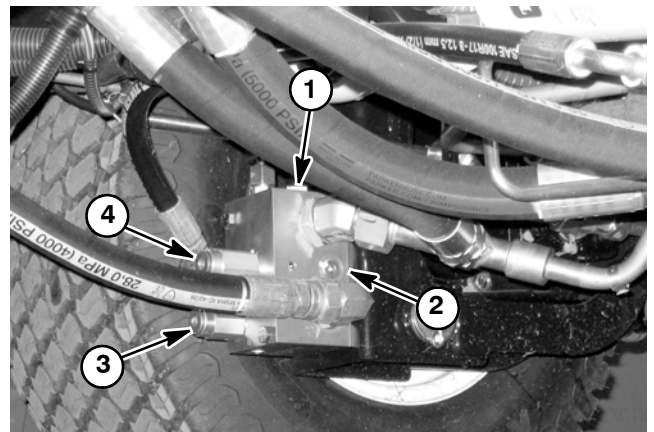

Figure 34
2. Locate rear traction manifold that is attached to the front frame next to the left side front wheel (Fig. 34). Remove #6 zero leak plug on inside of rear traction manifold and install diagnostic fitting (Toro part number 59-7410) into manifold port.
7. The rear traction circuit relief valve (RV) is located on the rear side of the rear traction manifold (Figs. 34 and 35). If test pressure is incorrect, adjust relief valve (RV) (see Adjust Control Manifold Relief Valves in the Adjustments section of this chapter).